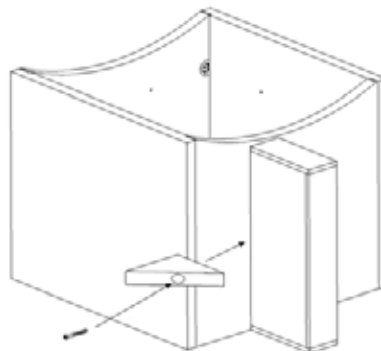

Figure 2
2. Once your shelf is attached to the wave cube line your gusset flush against the cube and in the center of the end shelf. **(Figure 2)**
3. Attach the gusset to the shelf by pre-drilling through the gusset and into the shelf. Screw your round head washer screw through the gusset and into the bottom of the shelf. **(Figure 2)**